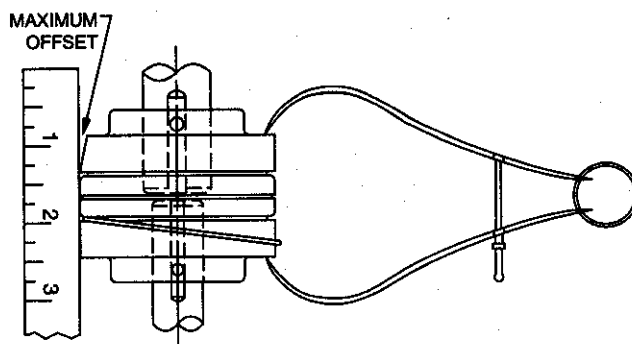

Figure 2.
F. PUMP/MOTOR COUPLING ALIGNMENT: Proper alignment between the pump and motor shafts is essential for smooth operation. See **Figure 2**.